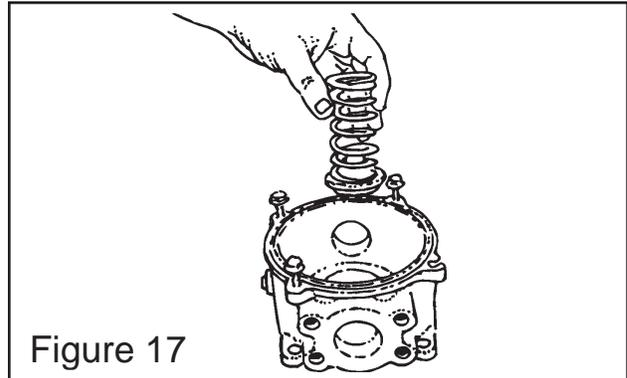

Figure 17
4. Reinstall filter spring and filter cover. Drop spring in on top of new filter. (See Figure 17)